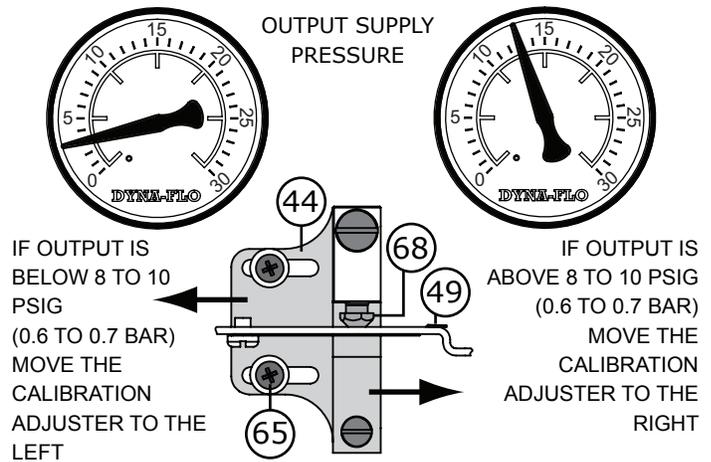

FIGURE 2 - DIRECT ACTING
(Reference Figures 2, 3, 6, 9, 10, 12, & 13)
(Reference Figures 2, 6, 9, 10, 12, & 13)
**For Direct-Acting Controllers:** See Figure 2.
(Reference Figures 2, 3, 5, 10, 13, 14, & 15)